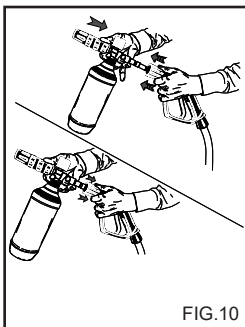
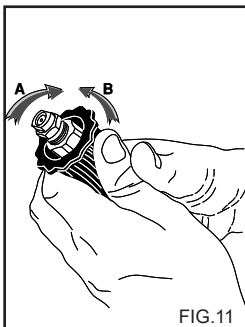

FIG.10
FIG.11
2) Remove the extension tube from the handgrip and attach the detergent spray kit (fig. 10), operate the water cleaner and spray the surface to be washed, starting from the bottom and working upwards. In the version with detergent suction, switch on the detergent suction control on the lance (fig. 11). Let it react for a few minutes.
USING THE ADJUSTABLE HEAD (Fig. 11) (DS Vers.)